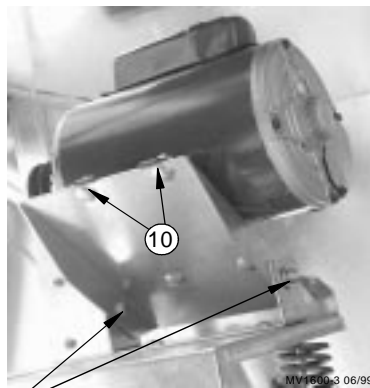

Figure 6. Pivot Plate Mounting Bolts
5. Secure the Pivot Plate Mounting Bracket, **see Figure 6**, on the new U-Motor Mount Bracket using the two carriage bolts, and Lock Nuts provided.
8. Mount the Motor to the Pivot Motor Mount Plate by using the supplied carriage bolt with the heads coming up from the bottom and flat washer, lock washer, lock washer and 5/16"-18 hex nut on top, **see Figure 6**.